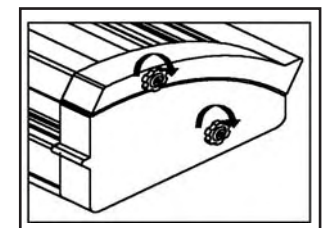

Figure 4
Film Tension Adjustment (6) - Allows the operator to increase or decrease film web tension. To increase the tension turn the knob clockwise and to decrease tension turn the knob counterclockwise. (Fig. 4)